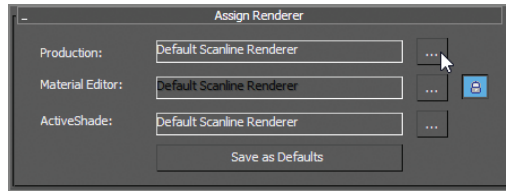

FIGURE 16.1 The Assign Renderer rollout
2. On the Common tab, scroll down to the Assign Renderer rollout, and then click the ellipsis button for the Production entry shown in Figure 16.1.